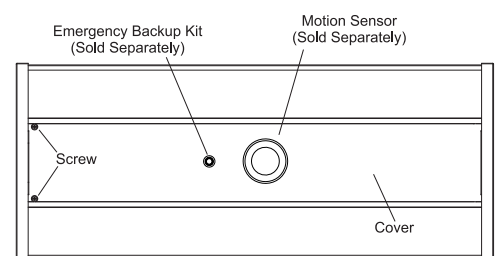

FIG. 4
7. Installing MOTION SENSOR. Take off the cover at the front, install motion sensor (sold separately) in the middle knock-out and follow wiring instruction of the motion sensor. Same as the Emergency Backup kit. Fig 4.